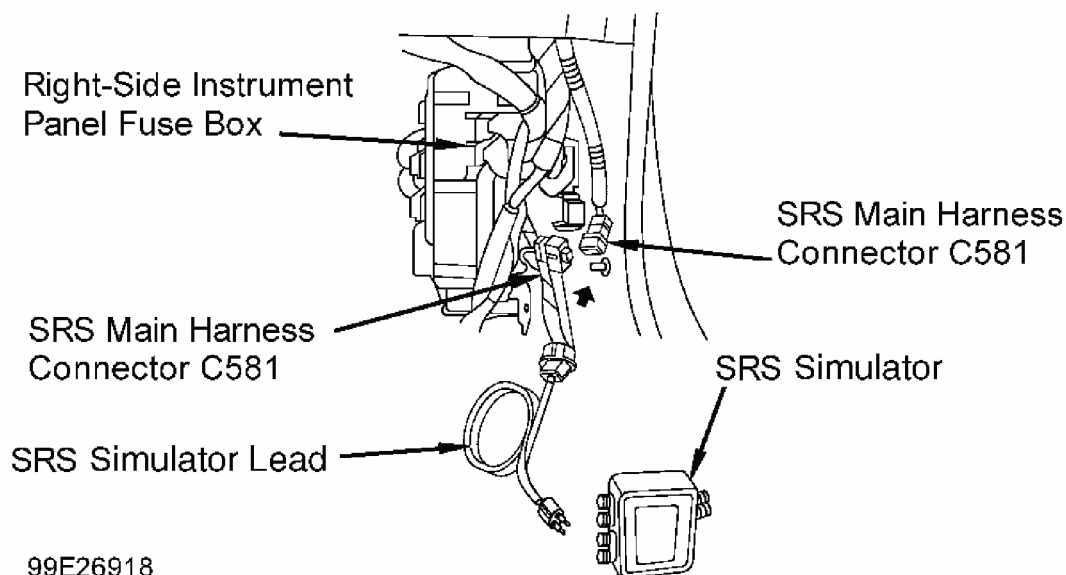

Fig. 45: Connecting SRS Inflator Simulator & Lead To SRS Main Harness Connector C581
3. Turn ignition switch to OFF position. Disable air bag system. Disconnect SRS side harness connector C581. See **Fig. 45** . Connect SRS simulator lead and SRS inflator simulator to SRS main harness side of connector C581. Reconnect negative battery cable. Erase DTC memory. Retrieve DTC. If DTC 22-1 is indicated, go to next step. If DTC 22-1 is not indicated, replace SRS floor harness. See **WIRING DIAGRAMS** .
3. Turn ignition switch to OFF position. Disable air bag system. Disconnect SRS side harness 2-pin connector C581. See **Fig. 45** . Connect SRS simulator lead and SRS inflator simulator to SRS main harness side of connector C581. Reconnect negative battery cable. Erase DTC memory. Retrieve DTC. If DTC 22-3 is indicated, go to next step. If DTC 22-3 is not indicated, replace SRS right side wire harness.
3. Turn ignition switch to OFF position. Disable air bag system. Disconnect SRS side harness 2-pin connector C581. See **Fig. 45** . Connect SRS simulator lead and SRS inflator simulator to SRS main harness side of connector C581. Reconnect negative battery cable. Erase DTC memory. Retrieve DTC. If DTC 22-8 is indicated, go to next step. If DTC 22-8 is not indicated, replace SRS side harness.
3. Turn ignition switch to OFF position. Disable air bag system. Disconnect SRS side harness 2-pin connector C581. See **Fig. 45** . Connect SRS simulator lead and SRS inflator simulator to SRS main harness side of connector C581. Reconnect negative battery cable. Erase DTC memory. Retrieve DTC. If DTC 22-9 is indicated, go to next step. If DTC 22-9 is not indicated, replace SRS side harness.